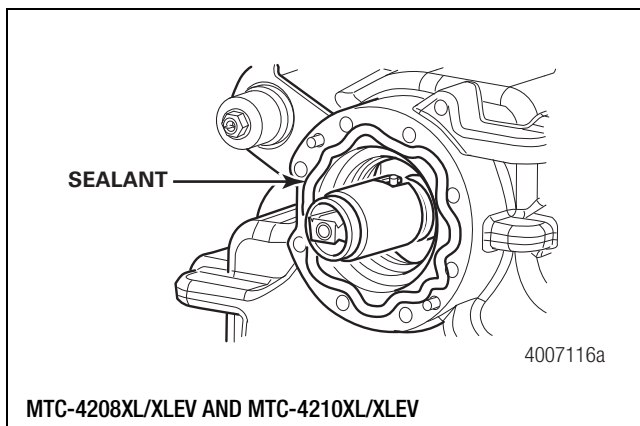

Figure 6.43
- Apply a 0.125-inch (3.175 mm) bead of Loctite® 518 sealant around the rear housing face. Figure 6.43.